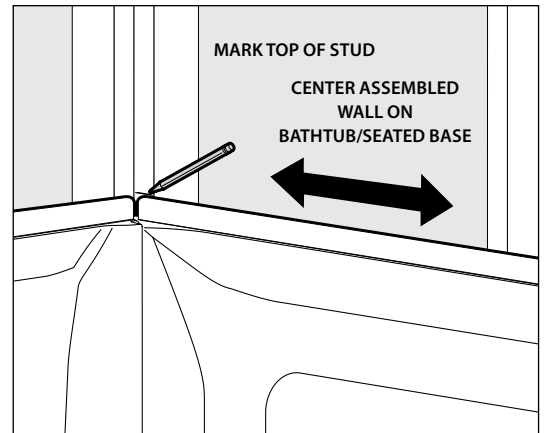

FIGURE 7. Mark studs.
- Mark height of wall on each stud to indicate where to apply adhesive on the stud. (Fig. 7)